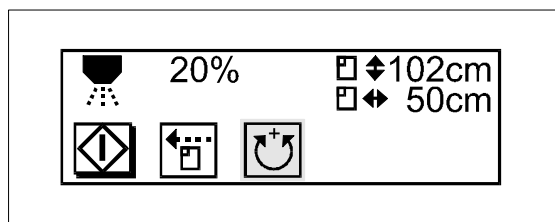

Fig. 17: Example: Regulation mode
- To return to standard operating mode from control mode, press button S10 until the symbol for control mode lightens. You can then switch over to the regulating mode by pressing buttons S8 or S9. The selected operating mode (regulating mode) will be confirmed by pressing button S10 (Fig. 17).